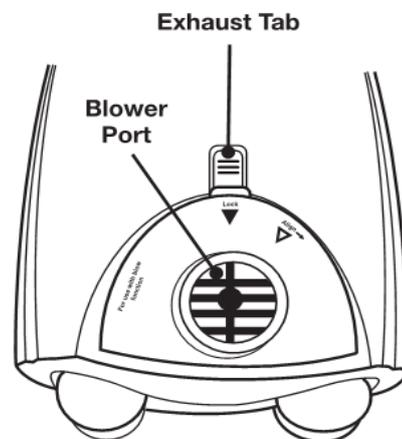

Fig 14
3. To place the blower port into the exhaust outlet; align the lower tabs on the blower port with the slots on the exhaust. Pull up on the exhaust tab and push the top of the blower port until it snaps into place (Fig.14).